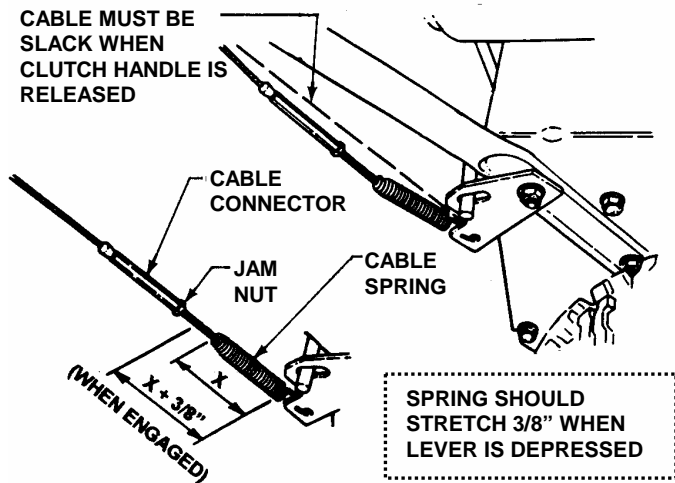

FIGURE 4.1
1. Measure control cable extension from a relaxed position to full extended position. Move control lever against handle. Measure from the top of spring (The top is in relation to where spring connects into connector). The cable spring should stretch 3/8" when the auger clutch control lever is depressed. See Figure 4.1.